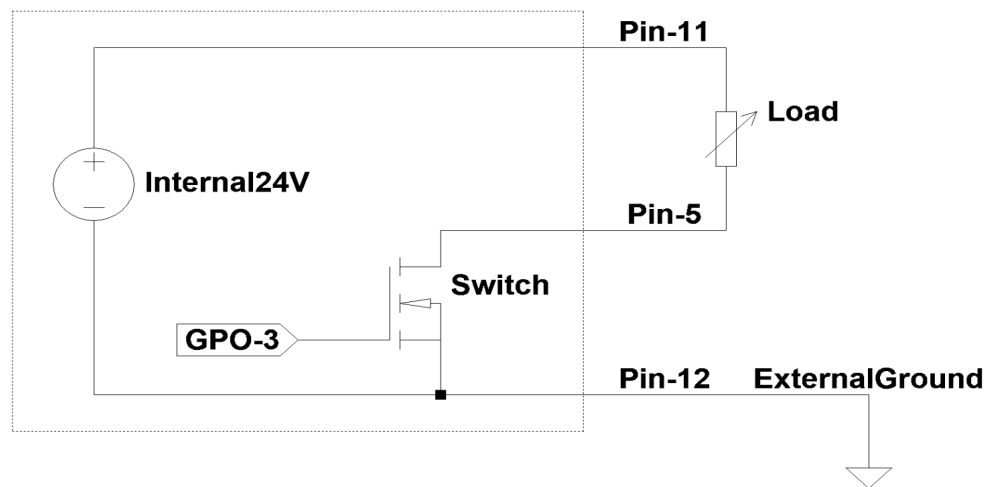

Figure 2: Using the GPIO to control an external device powered by 24VDC Internal supply
1. External devices can be powered from the reader. This power can be delivered to the external device via pin 11, which provides a switched 24 VDC to a maximum of 600 mA. Users should bear in mind that using power from the reader decreases the amount of power that can be provided to other POE or GPIO devices. See Figure 2 below.
Figure 2 illustrates a load that is powered by the Internal 24VDC supply connected via Pin 11 of the GPIO connector. Pin 5 is used to control turning on or off the load. In this case, the circuit is set up to flow current through the load into Pin 5 External Output “3”.